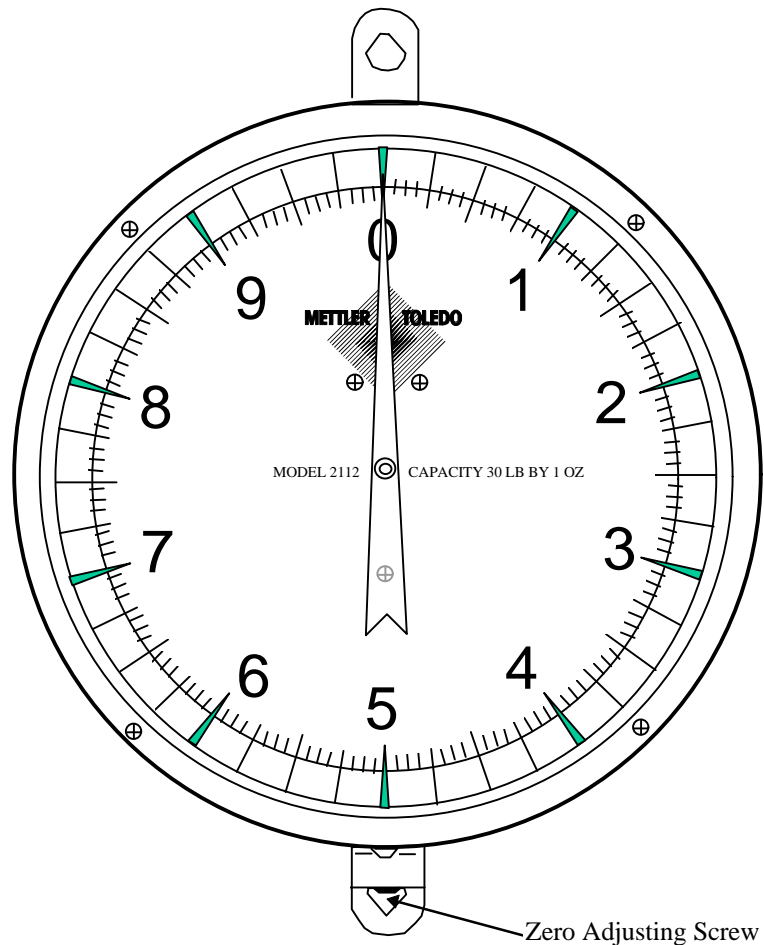

Figure 3-a
2. Adjust the indicator to zero graduation on the chart by turning the zero adjustment screw, Figure 3-a. Depress the pan several times and recheck the zero indication. Always depress the commodity pan to full capacity and recheck zero after adjusting zero screw.